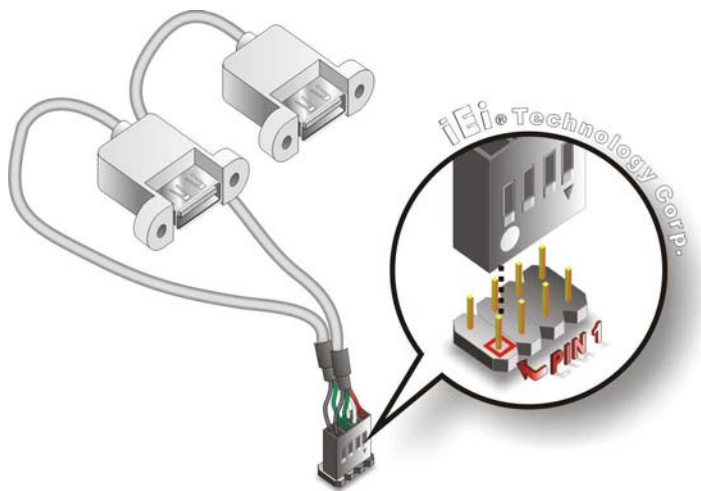

Figure 4-17: Dual USB Cable Connection
Step 3: Insert the cable connectors. Once the cable connectors are properly aligned with the USB connectors on the WAFER-945GSE, connect the cable connectors to the on-board connectors. See **Figure 4-17**.